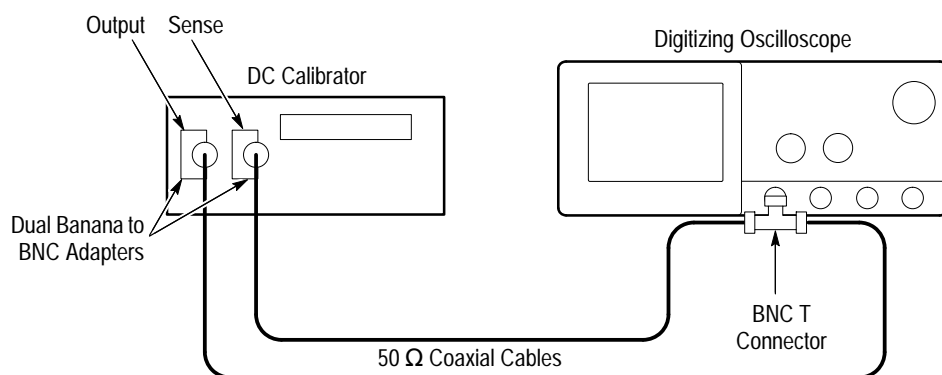

Figure 4–5: Initial Test Hookup
- Connect the output of a DC calibration generator through a dual-banana connector followed by a 50  $\Omega$  precision coaxial cable to one side of a BNC T connector. See Figure 4–5.
- Connect the Sense output of the generator through a second dual-banana connector followed by a 50  $\Omega$  precision coaxial cable to the other side of the BNC T connector. Now connect the BNC T connector to **CH 1**. See Figure 4–5.